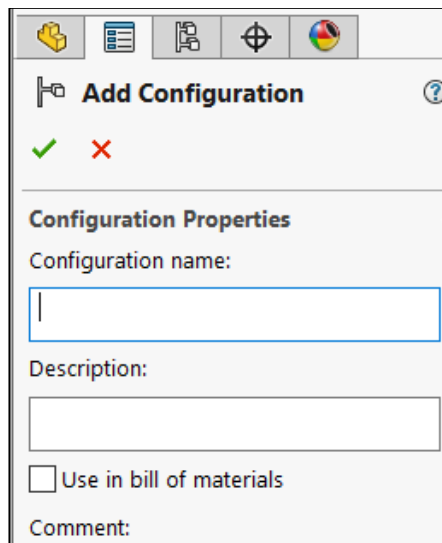

Figure 10 – Creating a new configuration
3. In the dialog box (Fig. 10), enter the name of the configuration and, if necessary, specify the features for the new configuration.